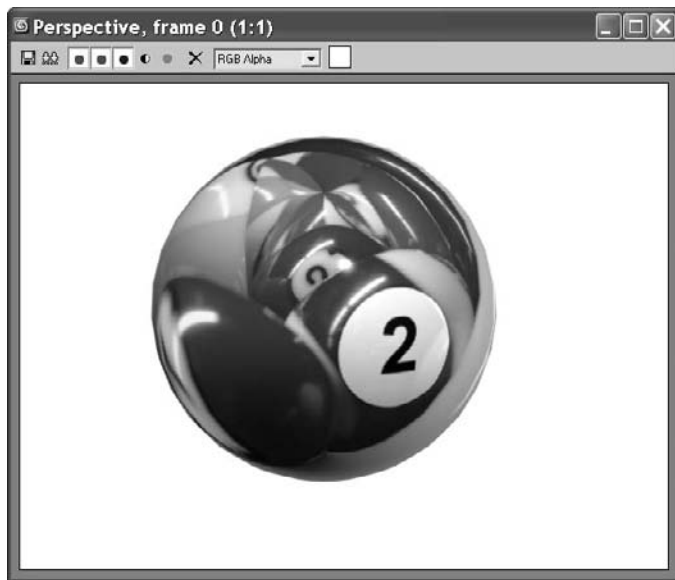

Figure 7.44
3. Do a quick test render with the Quick Render icon (the teapot). The reflections are pretty strong (Figure 7.44).
You may notice that the background in the renders in Figures 7.44 and 7.45 are white, whereas your renders' backgrounds are (probably) black. There are many reasons why you would want to control the background color, which you can do with a simple setting change. You may want a specific color to offset your scene (for example, blue to represent the sky) or you may want a picture in your background.